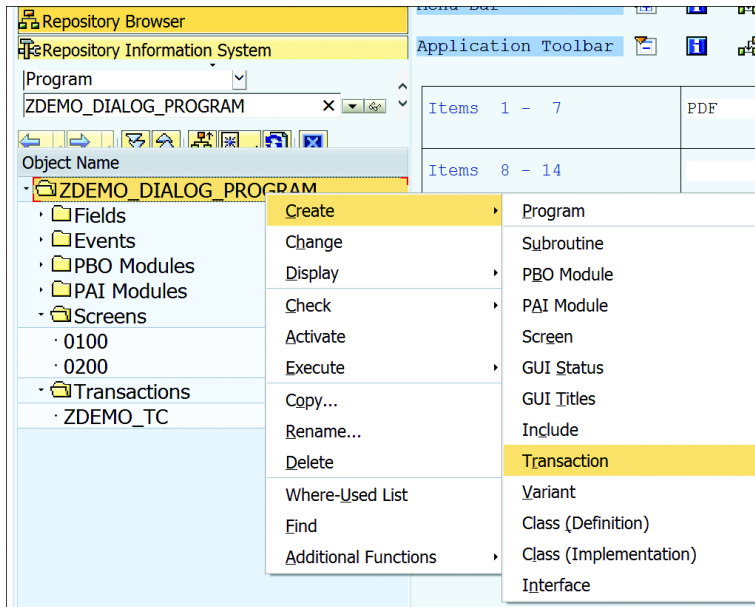

Figure 12.45 Create Transaction
1. Right-click the program name in Object Navigator and select `CREATE • TRANSACTION`, as shown in Figure 12.45.